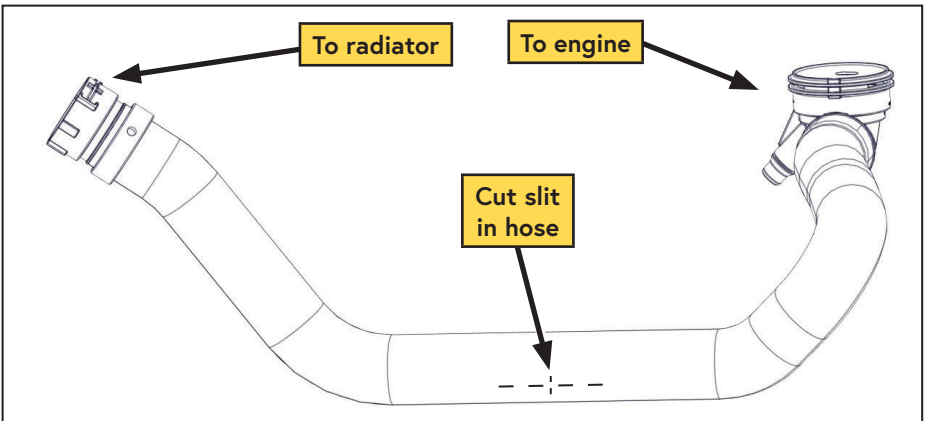

Figure 1 — Lower radiator hose
- ☐ Cut a slit in the center of the hose to drain the remaining coolant (Figure 1).
- ☐ Uncouple the lower radiator hose assembly at the engine and radiator and remove the assembly from the engine bay (Figure 1).